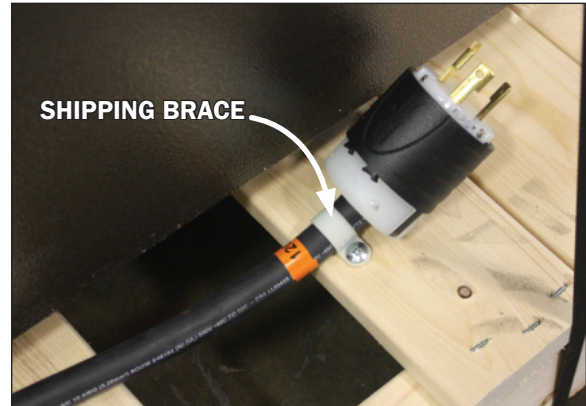

Fig. 1 Power cord shipping brace
4. The power cord shipping brace (Fig. 1) can be removed with a screw gun. As for case shipping braces, the same would be applied with sled runner or caster construction. If the braces are metal brackets or locks they can be removed with a screw gun. If they are wood blocks they can be removed with a J-bar. **Note: Shipping braces are normally located at each corner of the case. Some case models with casters will use bracing that surrounds the casters entirely and some will use braces that affix to the toe-kicks at each corner. (Shipping braces used vary and are based on case design for best transport.)**